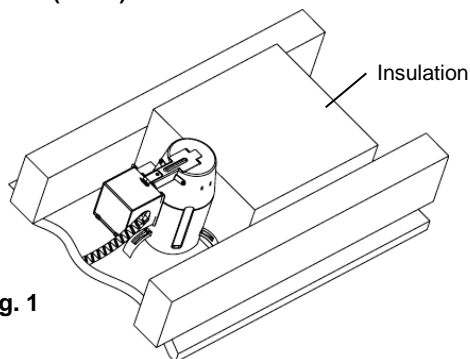

Fig. 1
**NOTE:** This fixture is an IC type fixture. It may come in direct contact with thermal insulation. It can be completely covered by thermal insulation, as shown below. In addition, any part of the fixture may come in direct contact with any combustible material, such as a ceiling joist or floor board. (FIG. 1)
2. Clear out any insulation necessary to maintain the 3" (7,6 cm) spacing specified in the "CAUTION" section found in the beginning of these instructions. (See Fig. 1)